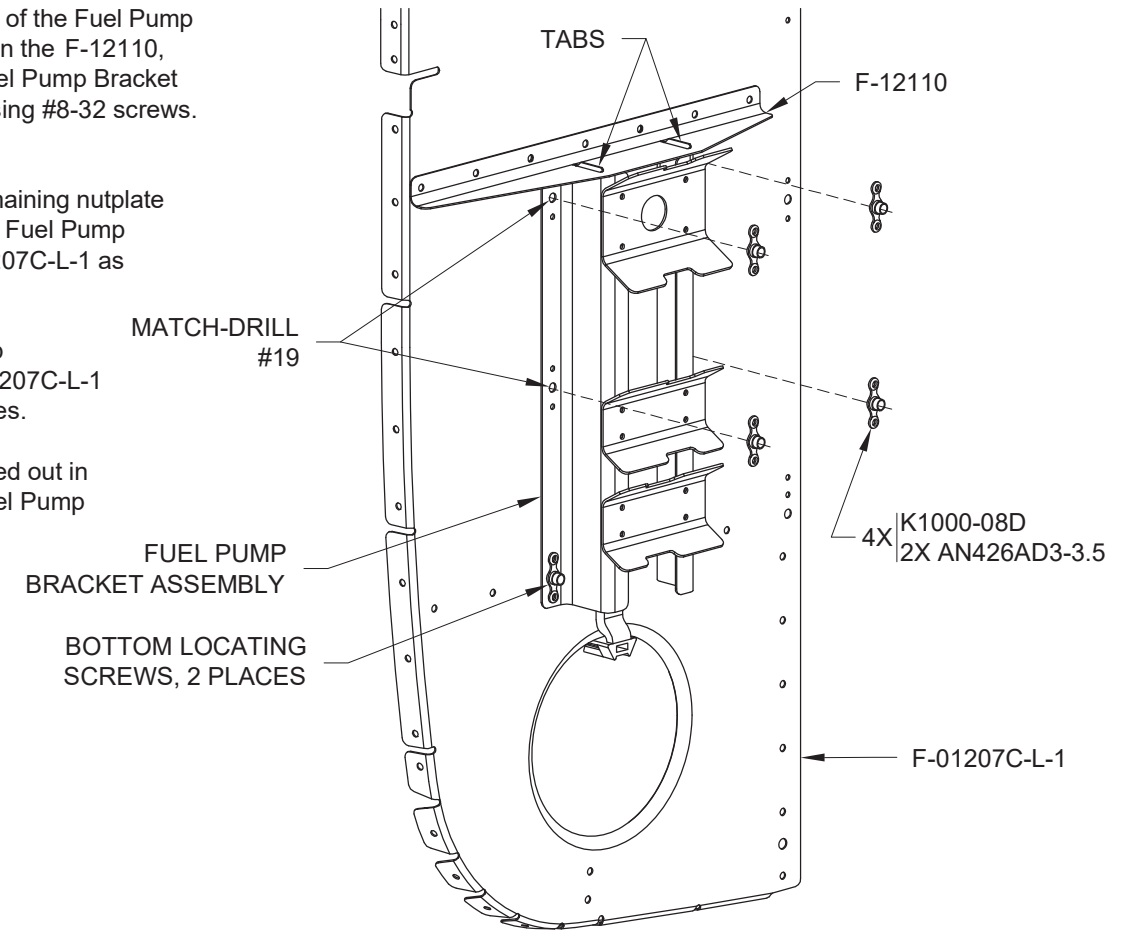

FIGURE 3: MATCH-DRILLING THE F-01207C-L-1
Step 9: Insert the tabs at the top of the Fuel Pump Bracket Assembly into the slots in the F-12110, and secure the bottom of the Fuel Pump Bracket Assembly to the F-01207C-L-1 using #8-32 screws. See Figure 3.
Step 10: Match-Drill the four remaining nutplate screw holes in the flanges of the Fuel Pump Bracket Assembly into the F-01207C-L-1 as indicated in Figure 3.
Step 12: Rivet the nutplates called out in Figure 3 to the flanges of the Fuel Pump Bracket Assembly.